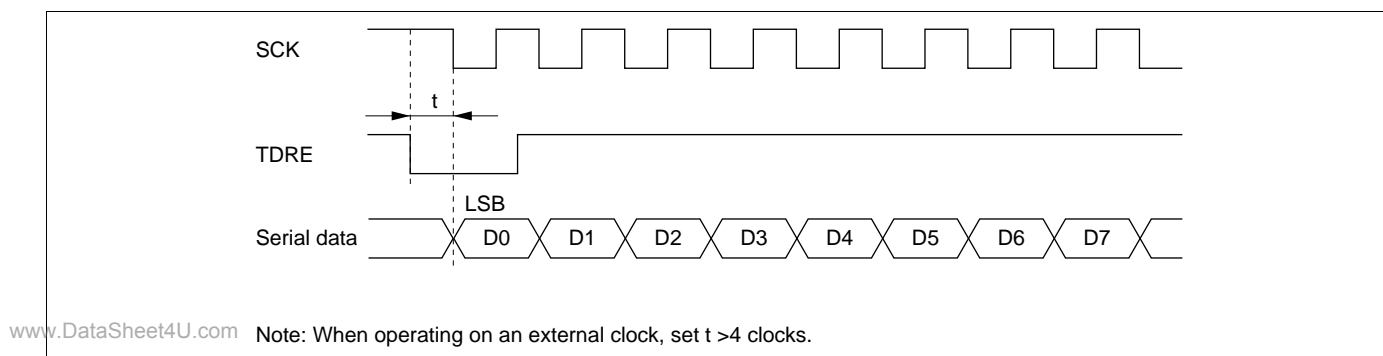

Figure 14-22 Example of Clocked Synchronous Transmission by DTC
- When an external clock source is used as the serial clock, the transmit clock should not be input until at least 5 ϕ clock cycles after TDR is updated by the DMAC or DTC. Misoperation may occur if the transmit clock is input within 4 ϕ clocks after TDR is updated. (Figure 14-22)